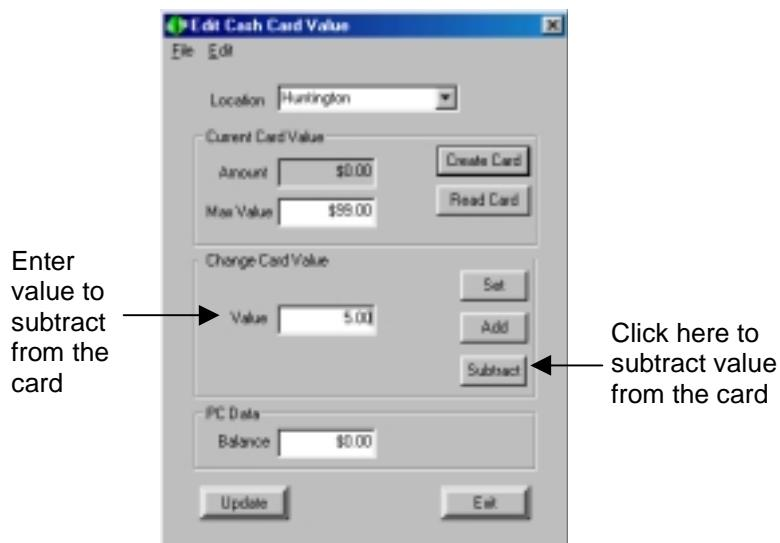

Figure 12.8 Subtracting Value from a Cash Card
3. Enter a value to subtract from the card (Figure 12.8).
4. Click the Subtract button (Figure 12.8).